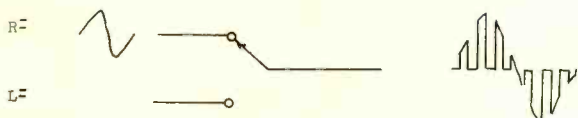

Fig. 3—Composite signal of time division multiplex—right only.
The 38 kc squarewave generated at the mv collectors is used to trigger the left (L) and right (R) gates. The left and right information is sampled at a 38 kc rate—similar to the operation of a switch being alternately opened and closed between two circuits at a 38 kc rate (Fig. 3). This system is commonly known as the "time multiplex method."